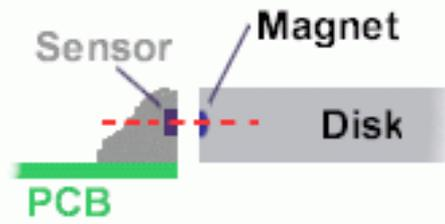

Figure 3 Ensure correct alignment of magnet disk and sensor.
- Rotate the disk in rotation direction until the S-marked Magnet is close to the sensor (arrow (1)).
- Take care that the magnets in the disk are approximately in the same height as the sensor, see figure 3.